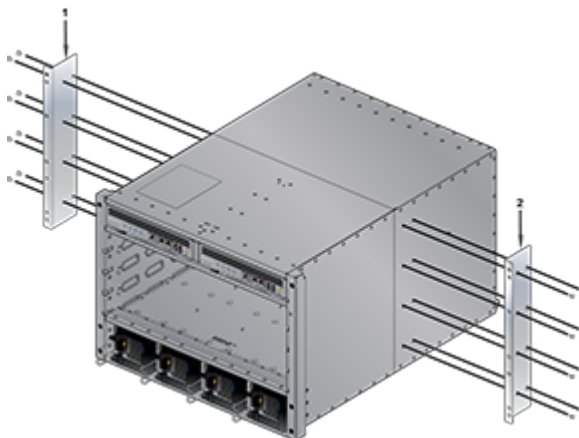

Figure 2: Attaching the Center-mount Brackets
1. Orient the switch chassis and the two center-mount brackets (Figure 2: Attaching the Center-mount Brackets).